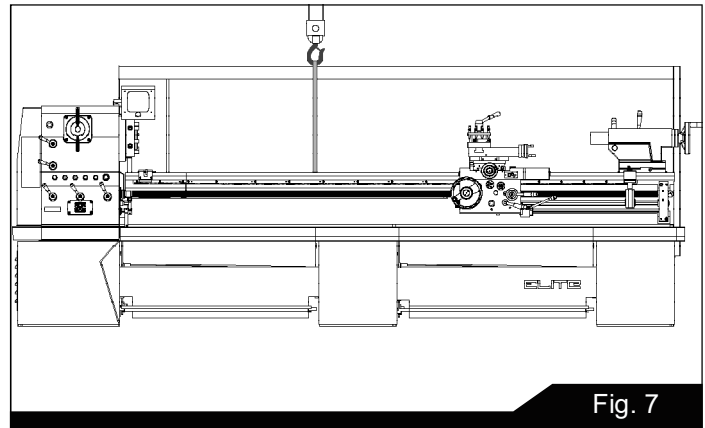

Fig. 7
9. Use a machinist's precision level on the bed ways both front to back and side to side, as shown in Figure 7. Take the reading in one direction every ten inches. Make sure the ways are clean and free of any debris before placing a level upon them.